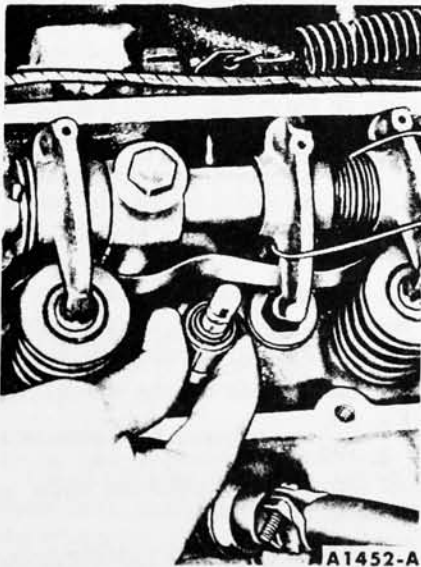

FIG. 52—Valve Stem Seal Removal
6. Remove the valve stem seal (Fig. 52).